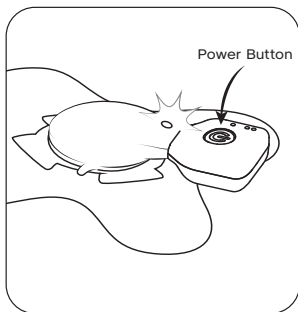

figure 11: Press Power Button
- A. Press and hold the *Power Button* on the **sam X1** Power Controller for at least 1 second to turn the device 'ON' (Figure 11).
Press the Power Button on the **sam X1** Power Controller to turn the device 'OFF' (See Figure 11).